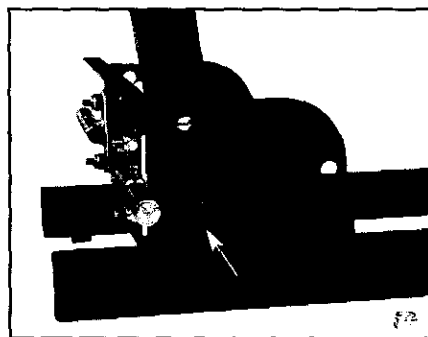

Figure 5
6. Attach the straight legs to the frame using (1) 1/4"- 20 x 2" carriage bolt, (1) 5/16" flat washer and (1) 1/4"- 20 Nylok nut per leg. Bolt will pass through the flat washer, then through the left hole in the frame plate closest to the frame tube, through the top hole in the leg and through the bracket on the inside of the frame. Secure with 1/4"- 20 Nylok nut. Figure 5.